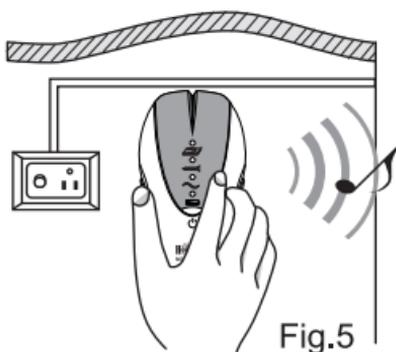

Fig.5
Turn M/V switch to ON, the POWER LED will light up, slowly scan across the surface to be searched. AC voltage indicator (5) LED will light up buzzer sound continuously as the detector gets closer to the "hot" electrical wire.(Fig.5)